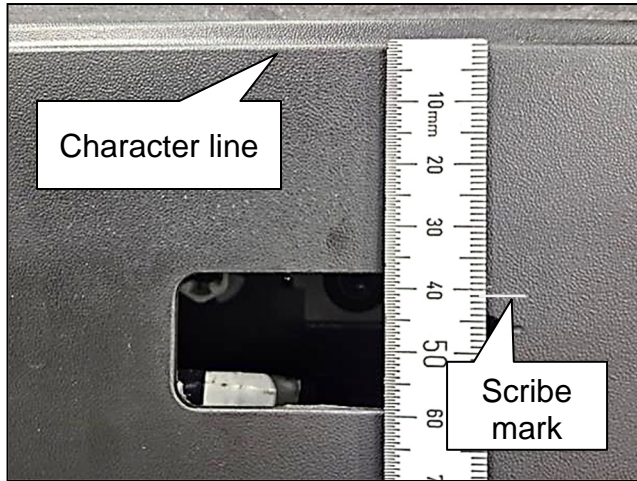
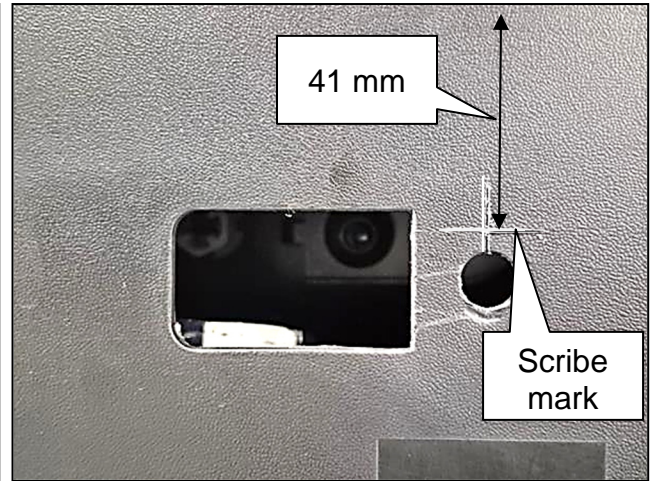

Figure 6
Figure 7
3. Measure 41 mm down from the top edge of Rear Bumper character line, and then make a horizontal scribe mark above the existing hole, as shown in Figure 6 and Figure 7.